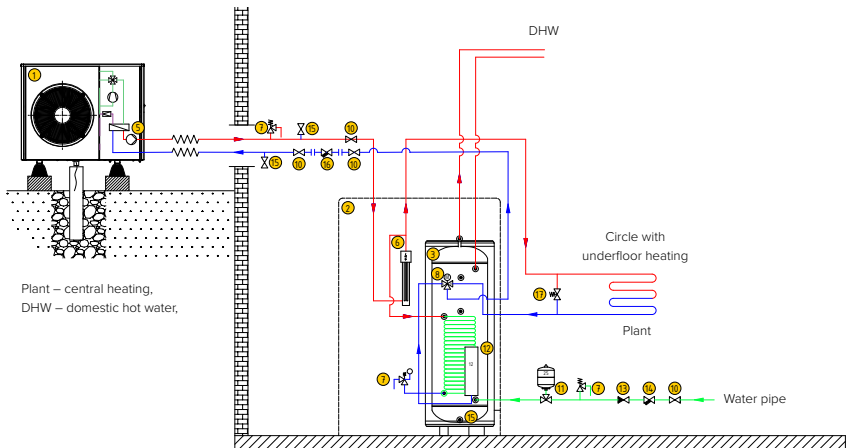

Fig. 28. Diagram of hydraulic system without a buffer (underfloor heating)
- 2) Connect the water return and supply of the heat pump as presented in Fig 28.